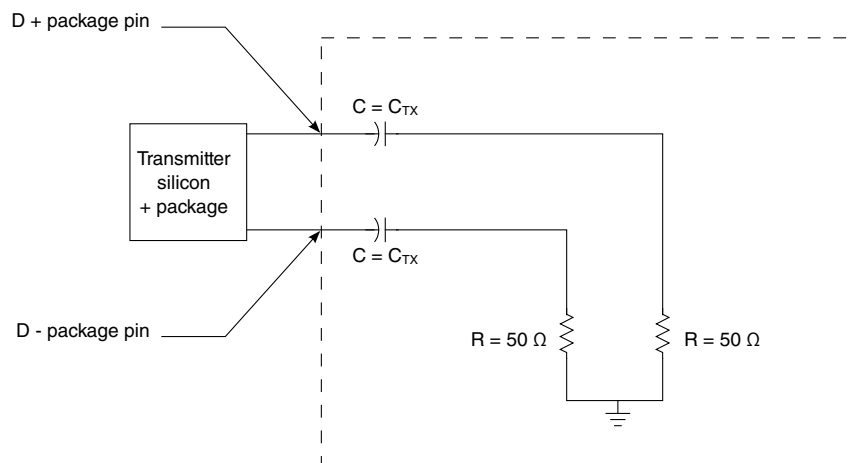

Figure 41. Test/measurement load
1. Specified at the measurement point into a timing and voltage test load as shown in Figure 41 and measured over any 250 consecutive transmitter UIs.
- Specified at the measurement point and measured over any 250 consecutive UIs. The test load in Figure 41 must be used as the receiver device when taking measurements. If the clocks to the receiver and transmitter are not derived from the same reference clock, the transmitter UI recovered from 3500 consecutive UI must be used as a reference for the eye diagram.